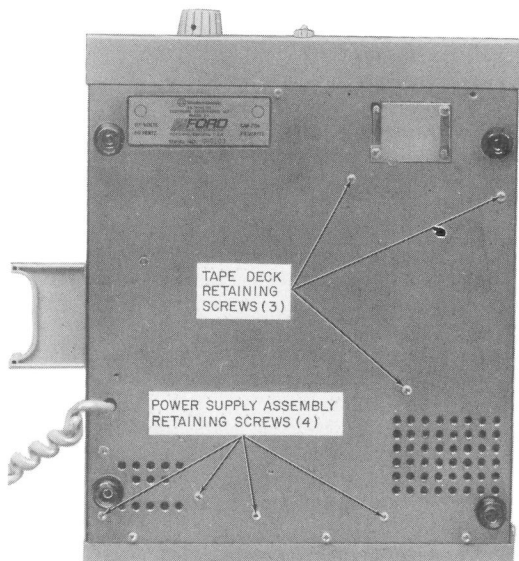

Fig. 4—List 13 (MD) Bottom View, Showing Power Supply and Tape Deck Retaining Screws
- (d) Lay the set on its right side and remove the three retaining screws for the tape deck (List 13 (MD), Fig. 4; List 24, Fig. 5).
- (b) Lay the set on its left side and remove the four retaining screws from the power supply assembly (Fig. 4).
- (4) Insert new power supply assembly.
- (b) Lay the set on its left side and install the four retaining screws (Fig. 4).
- (d) Lay the set on its right side and install the three retaining screws (Fig. 4).